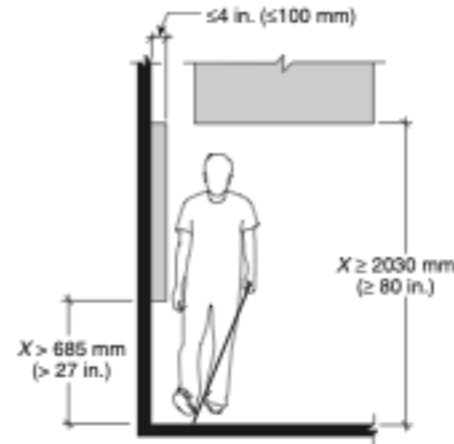

FIGURE J.2 Limits of Protruding Objects.
**J.2 Protrusion Limits.** Objects with leading edges more than 685 mm (27 in.) and not more than 2030 mm (80 in.) above the finish floor or ground shall protrude a maximum of 100 mm (4 in.) horizontally into the circulation path. (See Figure J.2.)